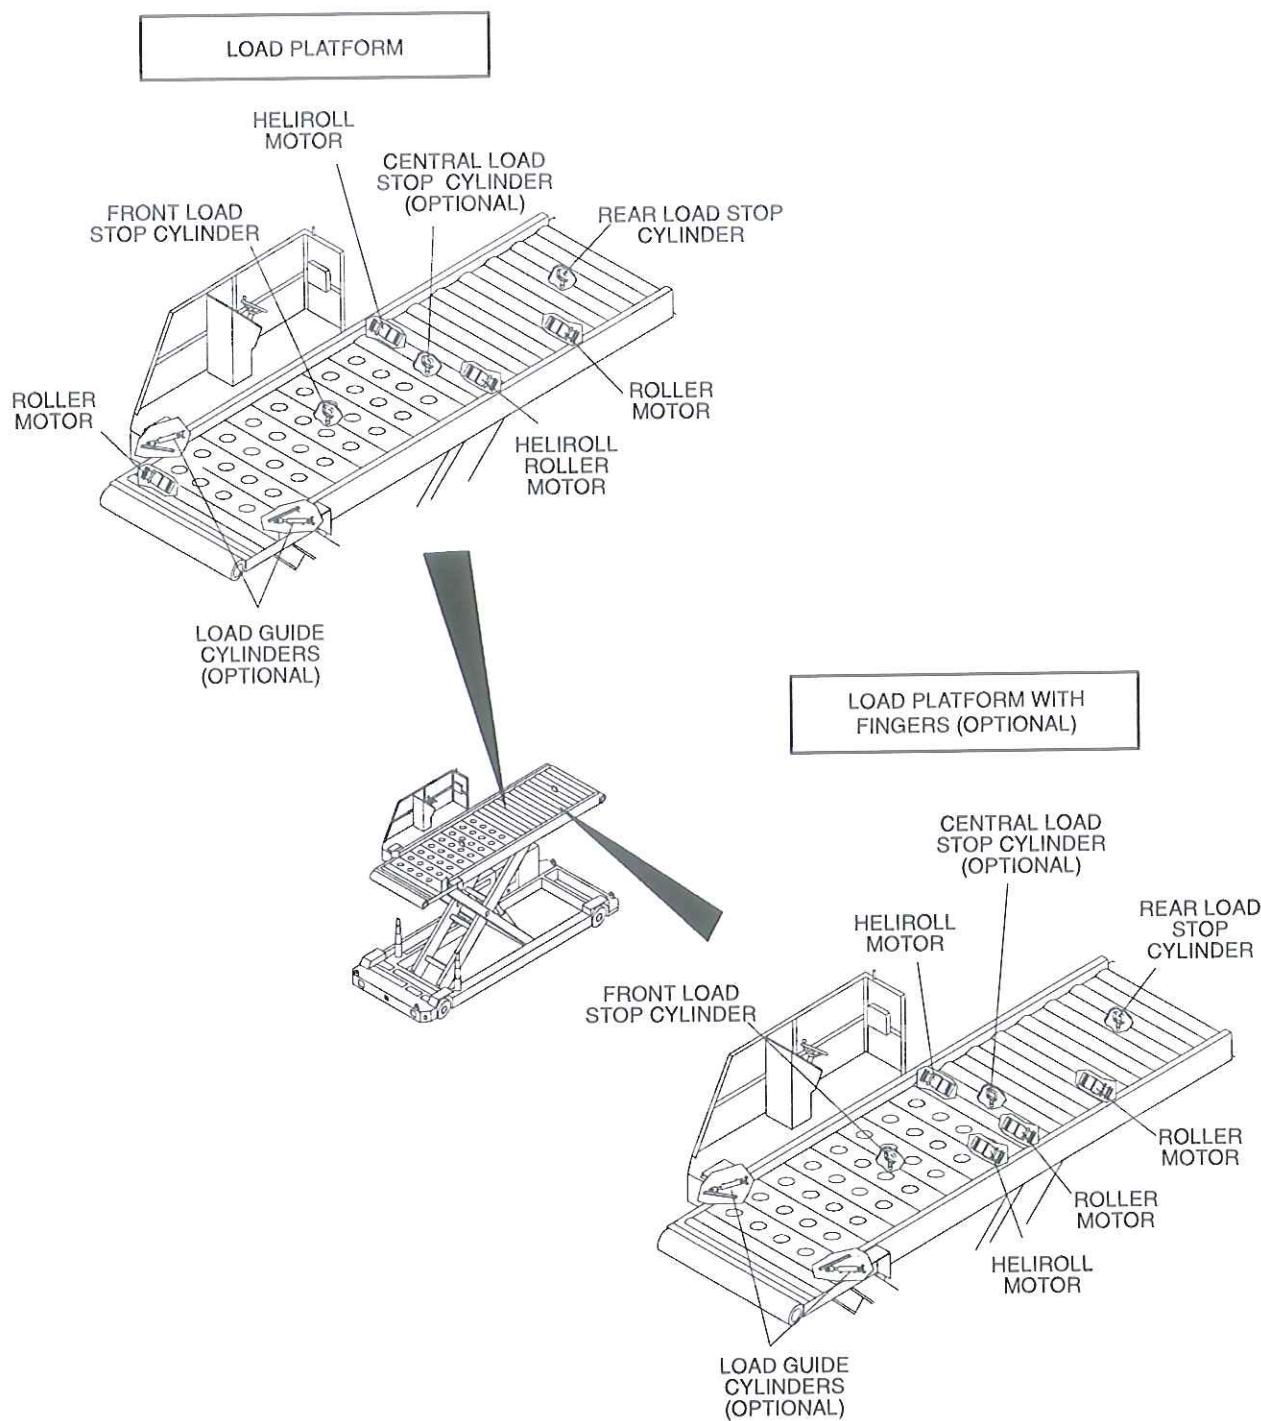

Figure 3
E. LOAD PLATFORM (SEE FIGURE 3)